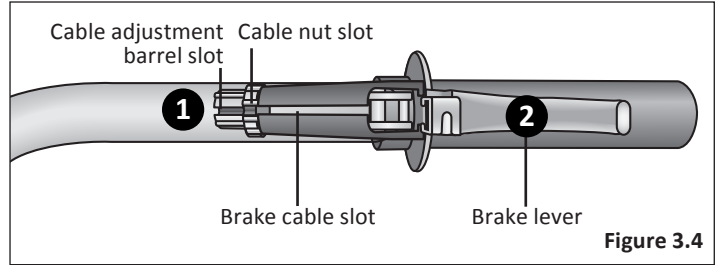

Figure 3.4
- 1** Rotate the cable adjustment barrel and cable nut until the slots are aligned with the slot on the brake lever body. **Figure 3.4**